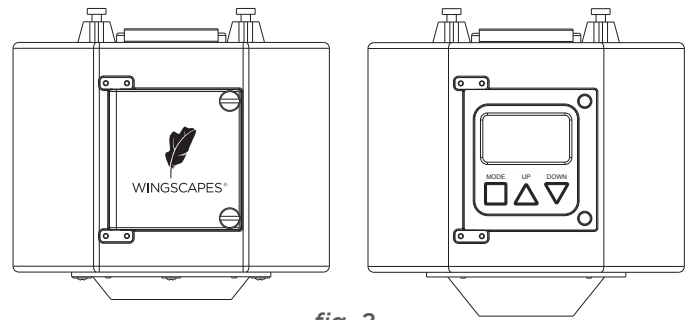

fig. 2
**8.** Loosen the 2 metal thumb screws and open the timer door (fig 2).